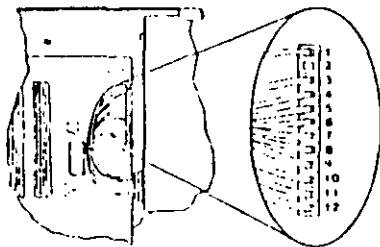

Figure 1 System Board Power Connectors
- Check for a voltage of 2.4 to 5.2 Vdc between pins 1 and 5 (ground) at the system board power supply connector, Figure 1.